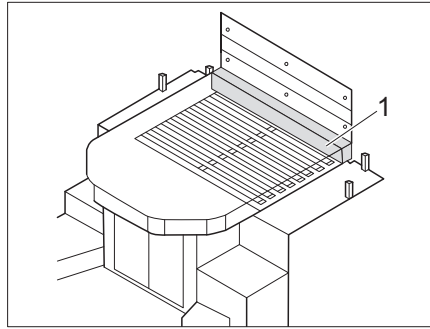

Fig. 182 Bed extension - variant 1
- Place additional mattress (Fig. 182,1) on the front side of the queen bed.